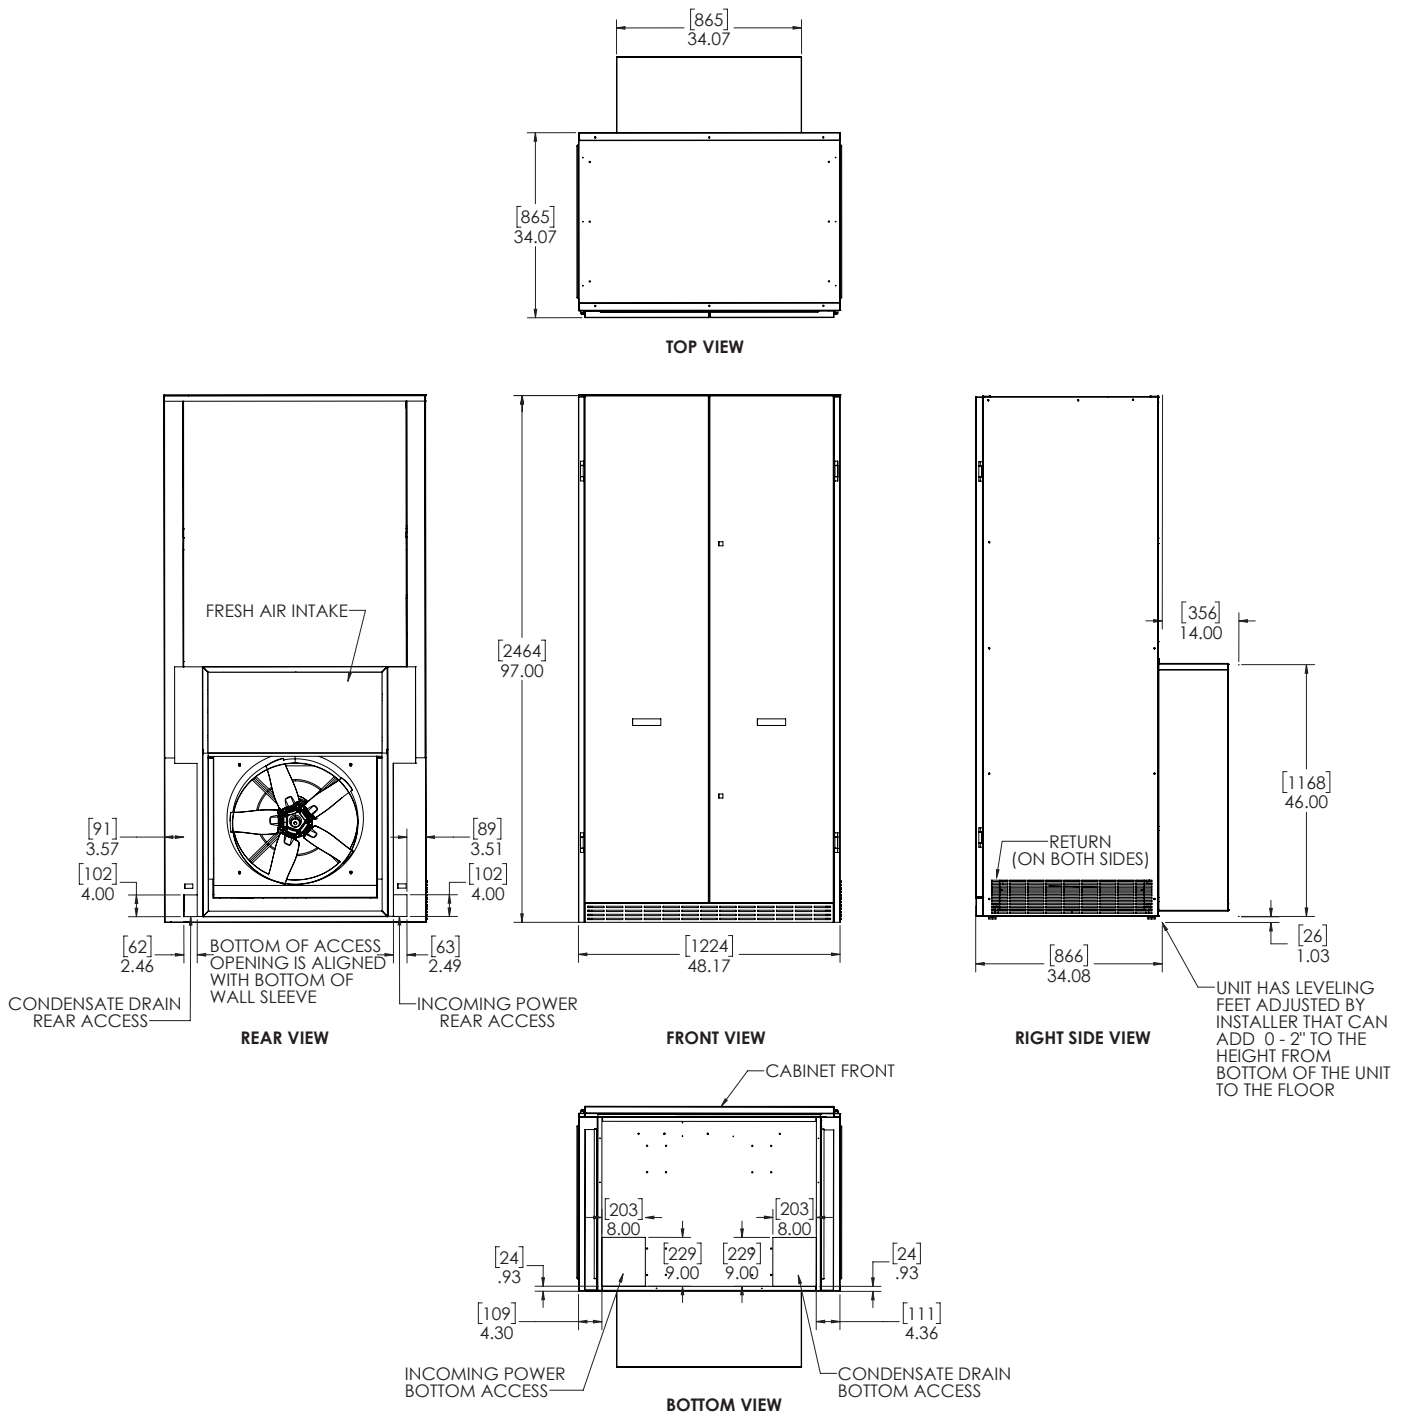

Figure 2. VDH2024/2036/2040 & VAH2030/2048/2060 Dimensional Data
| Figure 2: VDH2024/2036/2040 & VAH2030/2048/2060 Dimensional Data..... | 7 |
A. The Scholar QR heat pump and air conditioner must be installed on an outside wall for access to outside air. The wall opening dimensions are shown in Figure 2. It must not interfere with any windows or doors to the outside. The outdoor air path must not be impeded by shrubbery or other obstructions. Do not locate the Scholar QR heat pump or air conditioner where noxious fumes or gas can be drawn in from the outdoor air and introduced in the classroom.
1. Wall opening dimensions for the Scholar QR heat pump and air conditioner are as shown in Figure 2. The unit is designed for installation through a 14 inch thickness finished wall. For finished wall depth less than 14 inches, the unit will stand off from the interior finished wall and it will be necessary to order and install trim pieces to provide a finished, color coordinated enclosure that fits flush to the interior wall.